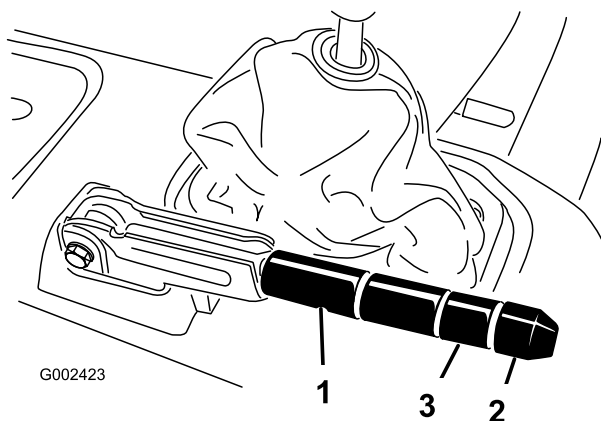

Figure 53
2. Loosen the set screw securing the knob to the parking brake lever (Figure 53).